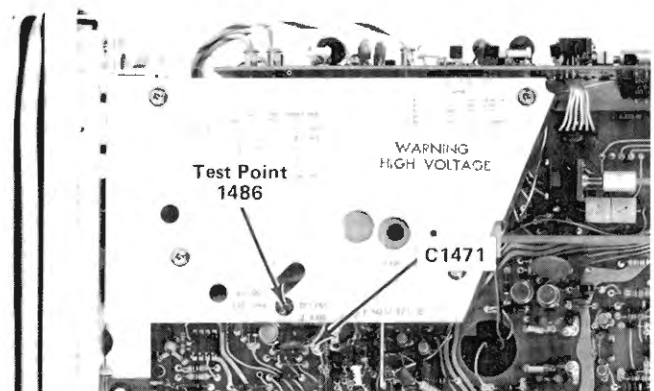

Fig. 5-6. Location of Z-Axis compensation adjustment and test point 1486.
- b. Connect the X10 probe from the Test Oscilloscope to TP1486 (see Fig. 5-6).
- e. ADJUST—Z-Axis Compensation adjustment, C1471, using low capacitance screwdriver, (see Fig. 5-6) for optimum square corner on the unblanking gate.